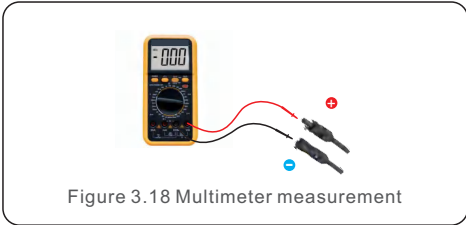
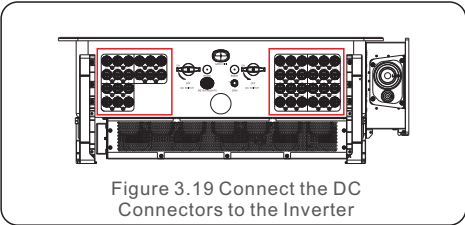

Figure 3.18 Multimeter measurement
Figure 3.19 Connect the DC Connectors to the Inverter
- 5. Measure PV voltage of DC input with multimeter, verify DC input cable polarity (see figure 3.18), and ensure each string voltage is in range of inverter operation. Connect DC connector with inverter until hearing a slight clicking sound indicating successful connection. (see figure 3.19)